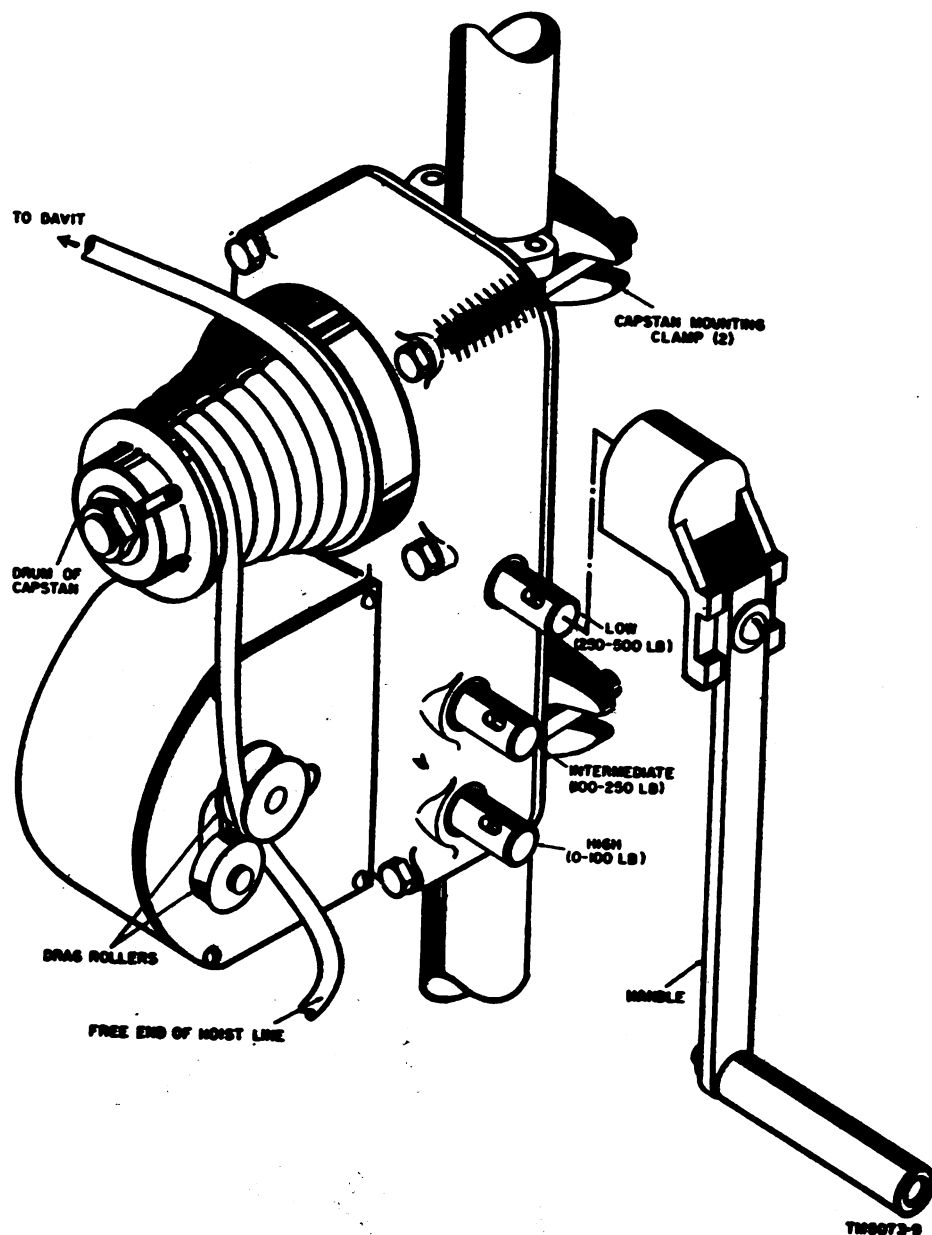
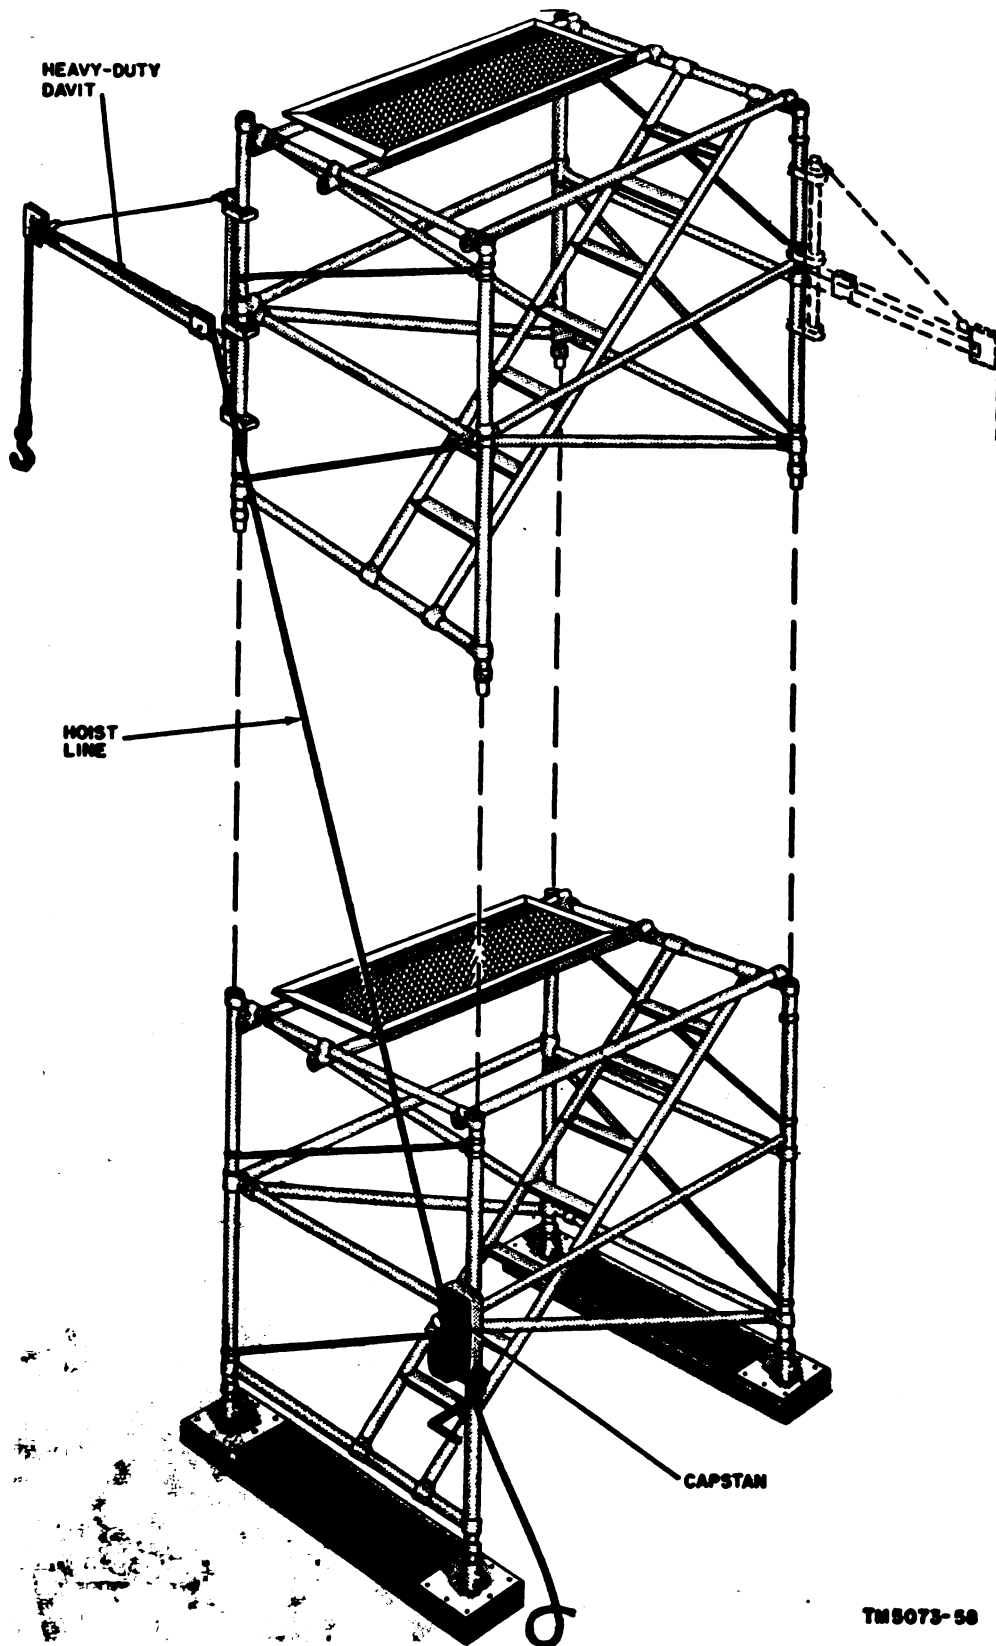

Figure 21. Capstan E-12/U.
Figure 22. Capstan being used with heavy duty davit.
- (4) Ciamp the upper portion of the davit to the vertical member of the tower section closest to the top of the ladder (fig. 22) or to the vertical member diagonally opposite. Be sure that one of the cam locks is placed directly above a welded fitting to prevent the
- (1) Position the capstan (fig. 21) on the vertical member of the end frame of Tower Section AB-208/U behind the ladder. The capstan drum should face away from the narrow side of the tower section (fig. 22) and the clamps should straddle the welded fittings
- (2) Use the ratchet wrench and tighten the clamping nuts.
b. *Raising Loads.* The capstan may be used to raise loads ranging from 0 to 500 pounds in three gear ranges. The lower stud on the capstan (fig. 21) is for the high gear ratio (0 to 100 pounds), the middle stud is for the intermediate gear ratio (100 to 250 pounds), and the top gear stud is for the low gear ratio (250 to 500 pounds). To raise loads with the capstan, proceed as follows:
- (1) Take the hoist line as it comes from the davit and wrap 4 to 6 turns around the drum of the capstan.